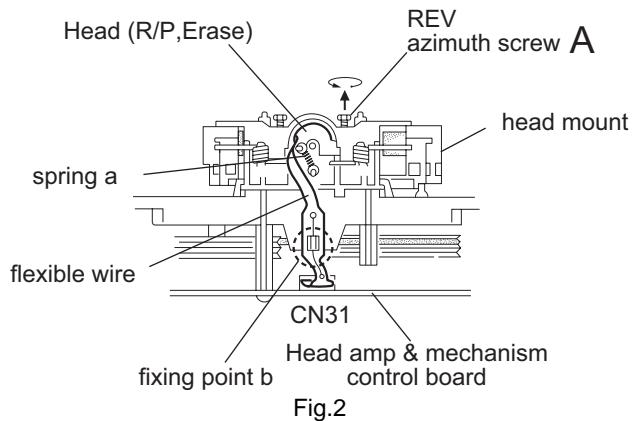
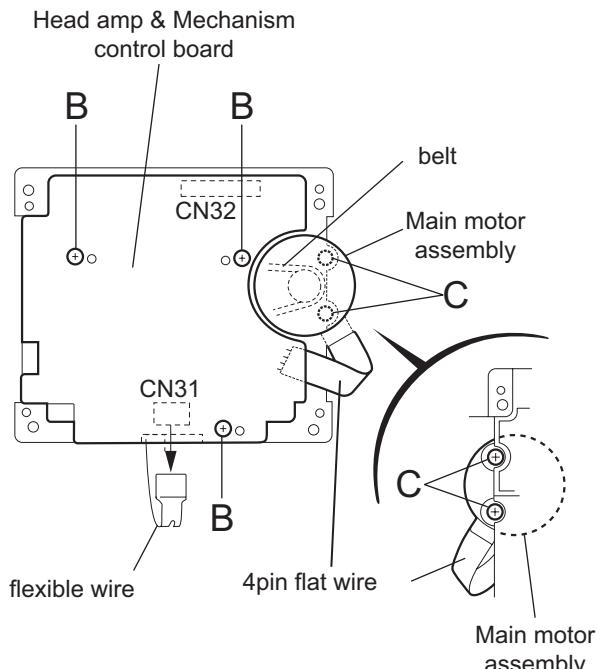

Fig.2
Fig.3
- (2) When the flywheel (R) is rotated in counterclockwise direction, the playback/recording & erase head will be turned in counterclockwise direction from the position in Fig.2 to that in Fig.3.
- (3) At this position, disconnect the flexible wire (outgoing from the playback/recording & erase head) from the connector CN31 on the head amplifier & mechanism control board.
- (4) Remove the flexible wire from the fixing point **b** on the chassis base.
- (5) Remove the spring a from behind the playback/recording & erase head.
- (6) Loosen the reversing azimuth screw **A** retaining the playback/recording & erase head.
- (7) Take out the playback/recording & erase head from the front of the head mount.
- (1) Reassemble the playback/recording & eraser head from the front of the head mount to the position as shown in Fig.3.
- (2) Fix the reversing azimuth screw **A**.
- (3) Attach the spring a from behind the playback/recording & eraser head.
- (4) Attach the flexible wire to the fixing point **b** on the chassis base.
- (5) Attach the flexible wire (outgoing from the playback/recording & eraser head) to the connector CN31 on the head amplifier & mechanism control board.